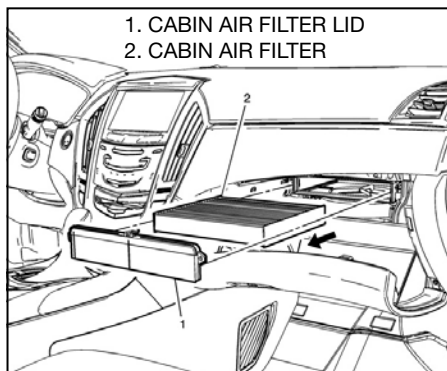

Fig. 26
4. Remove cabin air filter (see Fig. 26).